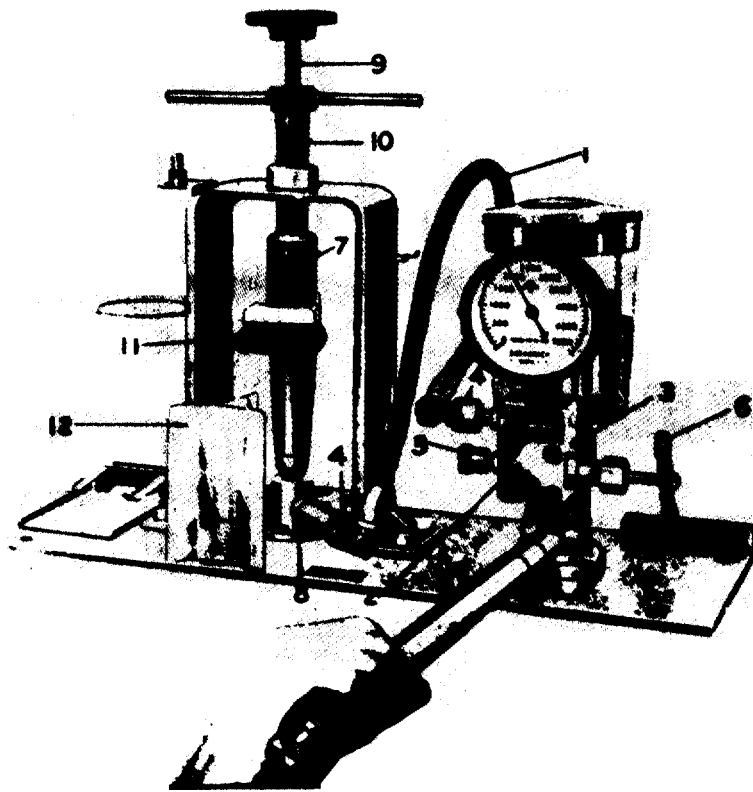

FIG. 1 Back Pressure Test
FLEXIBLE CONNECTOR (1) is attached to REVERSE FLOW BLOCK with second CONNECTOR NUT (4). Screw DRIP TUBE (11) into injector drain line hole. This test set-up is illustrated by Figure 1.
1. Bolt NOZZLE TESTER (1) to bench with 3/8" bolts; for portable use, mount on wooden or metal base similar to type illustrated in Figure 1.
2. Slide tubular end of PUMP HANDLE (2) on HANDLE SHOE (3) in base of NOZZLE TESTER. Solid shaft in telescoping PUMP HANDLE may be extended or telescoped, depending on pressures needed.
3. Remove COVER (4) of FUEL SUPPLY cup (5) with combined twisting and pulling motion; fill SUPPLY CUP with testing fluid.
4. Open GAUGE VALVE (6).
5. NOZZLE TESTER is self-priming; several strokes may be necessary to evacuate entrapped air. Although not necessary, VENT SCREW (7) in side of housing and directly behind lower discharge fitting can be opened for through venting and as priming aid.